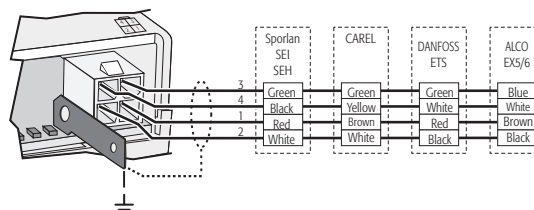

Fig. 3.4
- Valve: with reference to Fig. 3.4, connect the valve according to the type set for the "Valve type" parameter.